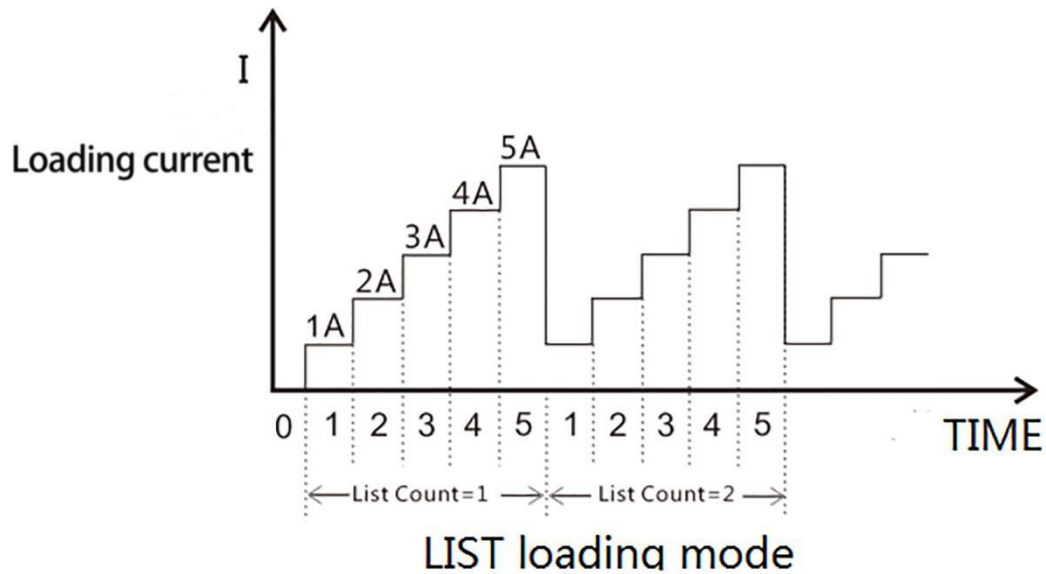

Figure 3.7 LIST loading
7. After the setting is completed, press the key **ESC** to back to the list test interface, press the key **ON/OFF** to turn on/off the loading. The test waveform is shown in Figure 3.7.